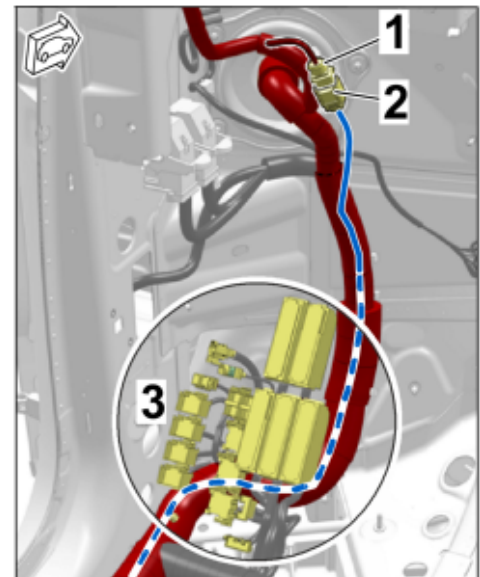

Figure 29
3.2.1 A-pillar area, left (⇒ *Figure 29*)